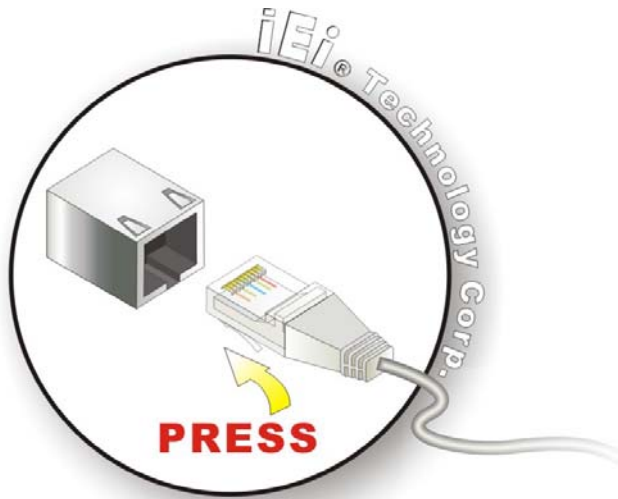

Figure 0-21: LAN Connection
Step 2: **Align the connectors.** Align the RJ-45 connector on the LAN cable with one of the RJ-45 connectors on the 2807730. See **Figure 0-21**.